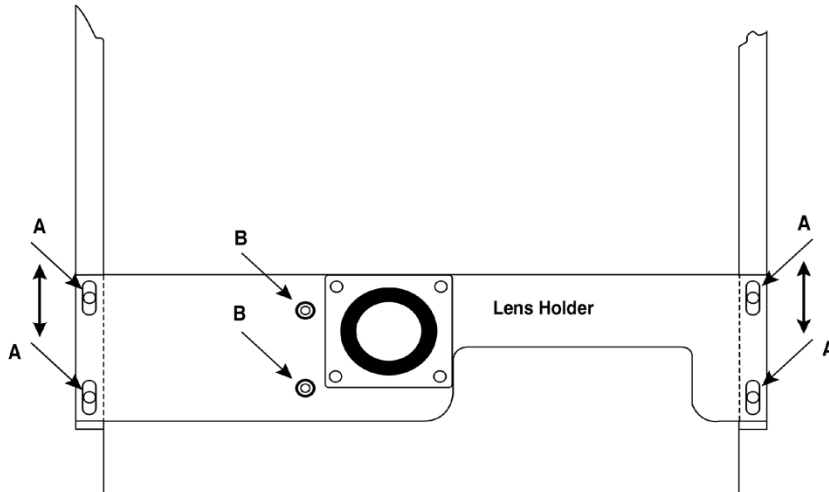

Fig. 4
Gently loosen the screws A (fig. 4), look through the lens, and move very gently the lens holder until you see a match, then gently fasten the screws (A)